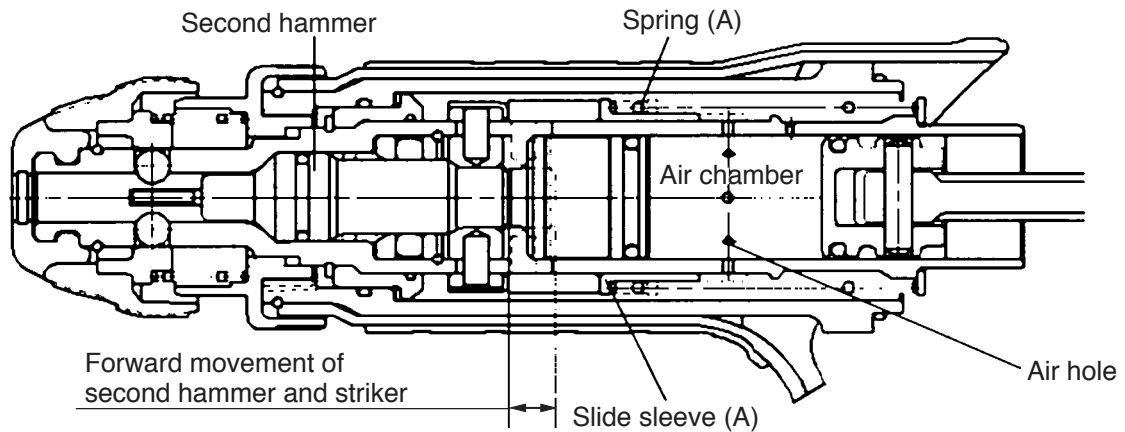

Fig. 4
When the tool is released from the concrete surface, sleeve (A) and the second hammer are forcibly moved to the position illustrated in Fig. 4 by spring (A), and the striker moves out of striking position. When this occurs, the air holes located at the position unaffected by the rebound of the striker at no load are opened and the pressure within the air chamber remains unchanged even though the piston continues to reciprocate, thereby preventing striking operation.